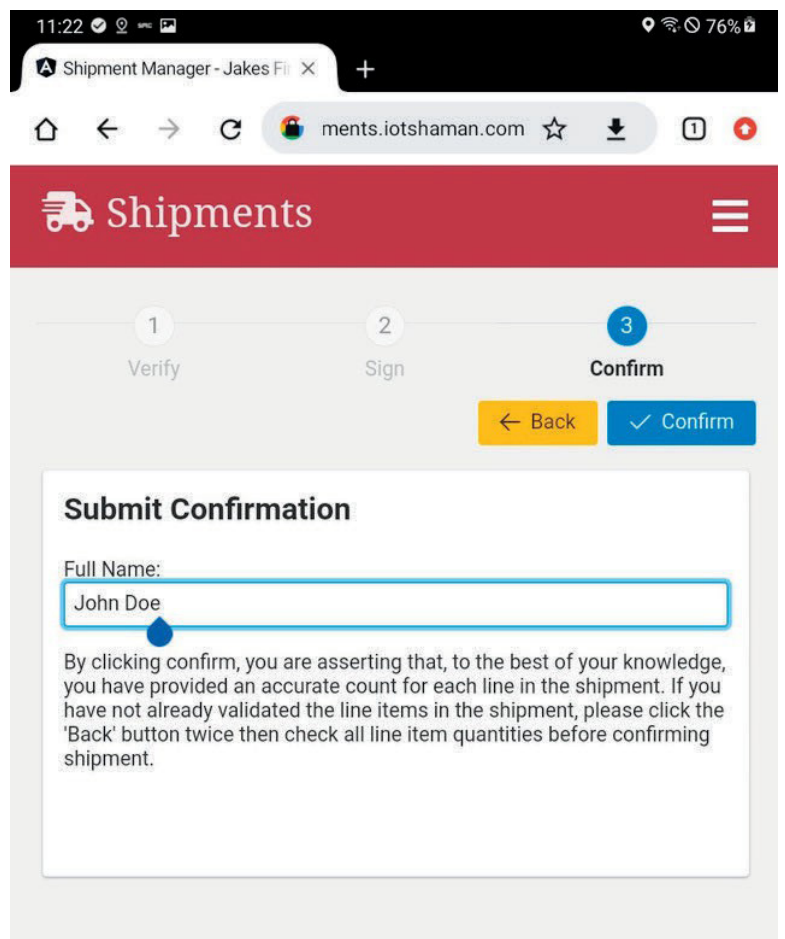

Figure 19
- d. Type your name in the FULL NAME field and click CONFIRM (Figure 19).